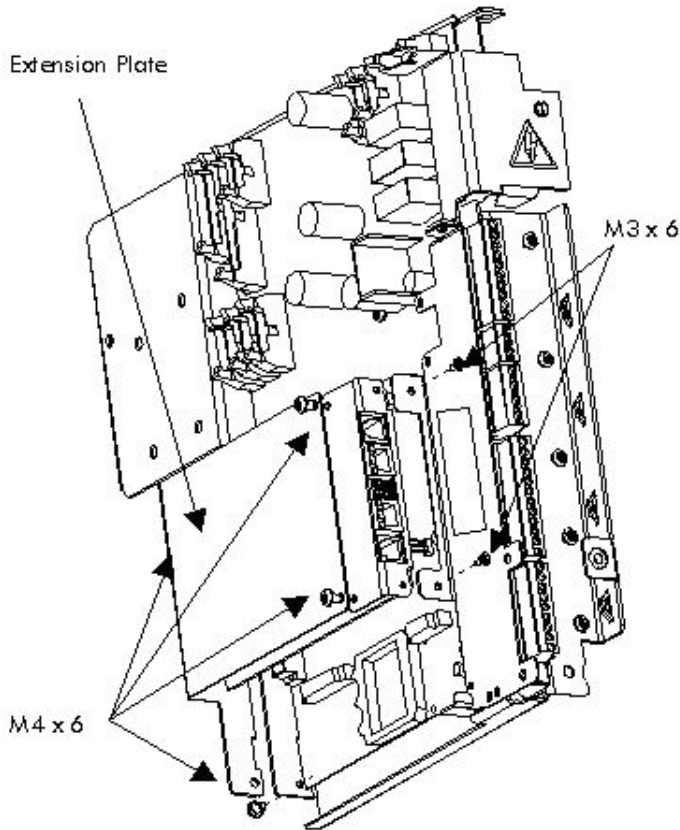

Figure 3-3. – Drive Module: Fitting the Ethernet Interface Module
- f) Fit the Ethernet Interface Module into the 96-way socket at the back of the CDC cassette, as shown in Figure 3-3. Secure it to the steel front plate with the two M3 x 6 screws provided.